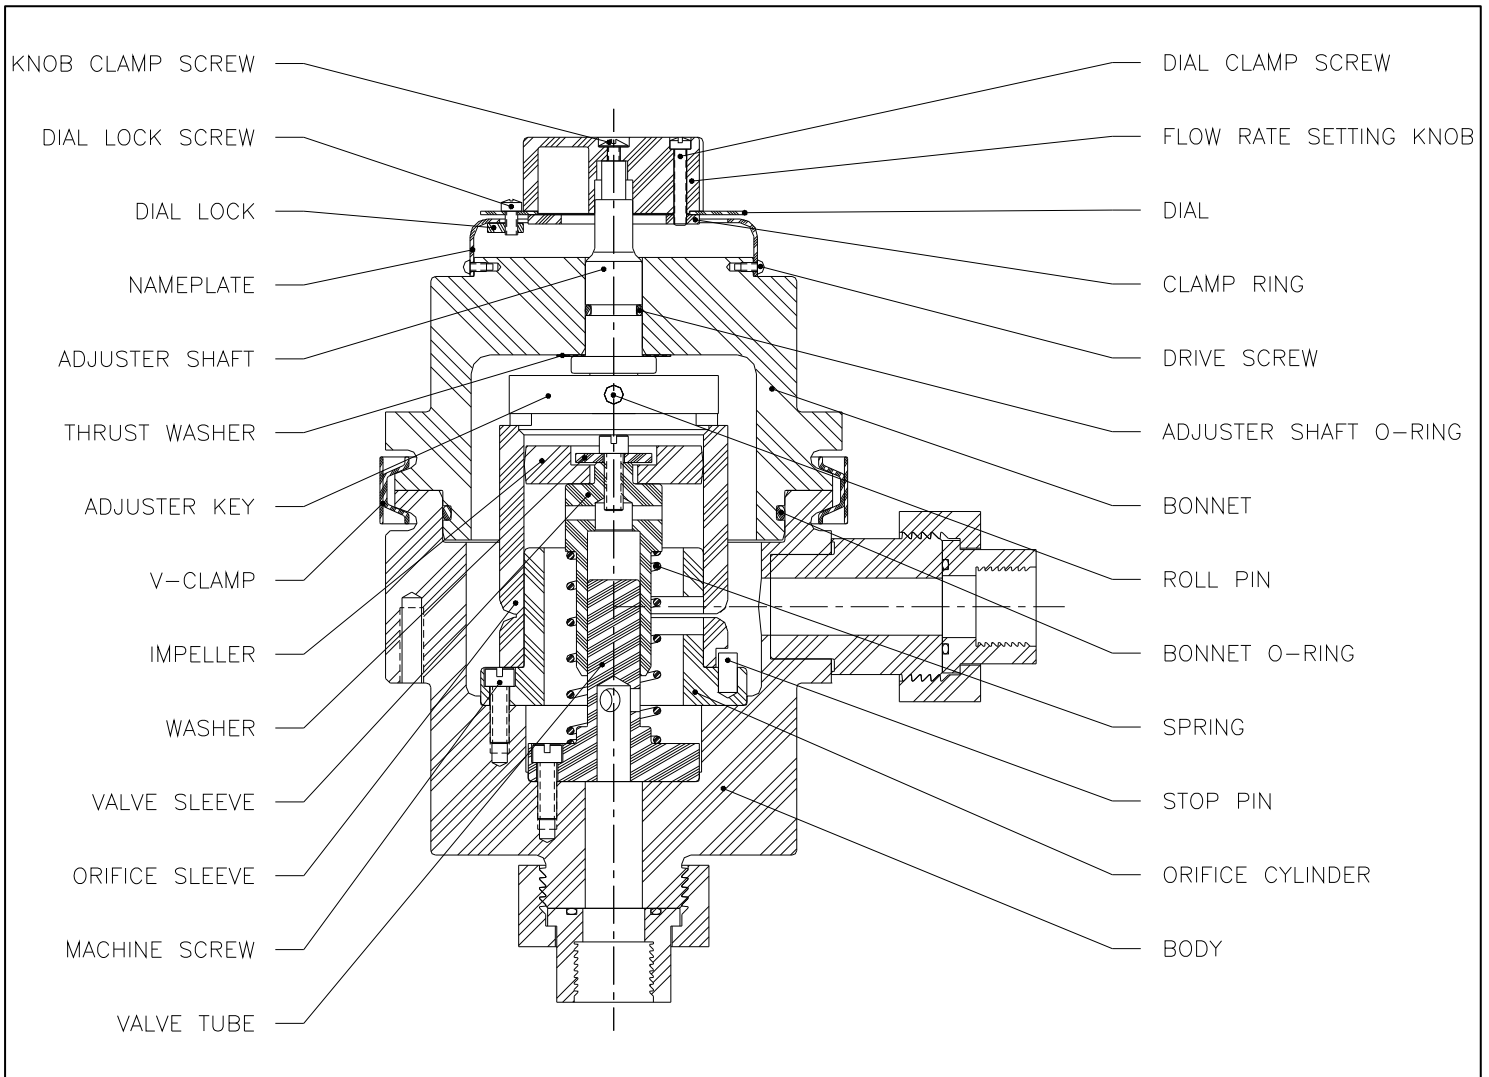

Figure 1
- d. Lower the bonnet slowly, at the same time turning the flow rate setting knob until the key on the end of the adjuster shaft fits into the slots in the orifice sleeve, and the shoulder on the lower face of the bonnet fits into the body. (Note: If the flow rate setting knob does not turn, loosen the dial lock screw. See figure 1) When properly assembled, the bonnet will seat squarely on the body all the way around. (See figure 1)
11. Replace the bonnet O-ring then lower the bonnet slowly, at the same time turning the flow rate setting knob until the key on the end of the adjuster shaft fits into the slots in the orifice sleeve, and the shoulder on the lower face of the bonnet fits into the body. When properly assembled, the bonnet will seat squarely on the body all the way around. (See figure 1) See that the pointer is in front where the set point can be read. Replace and tighten the V-Clamp.